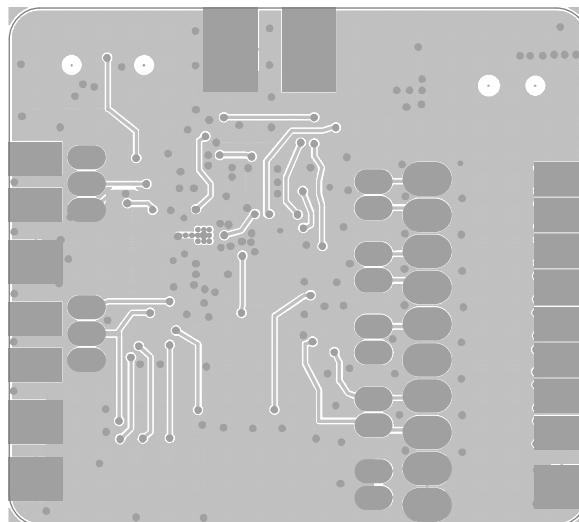
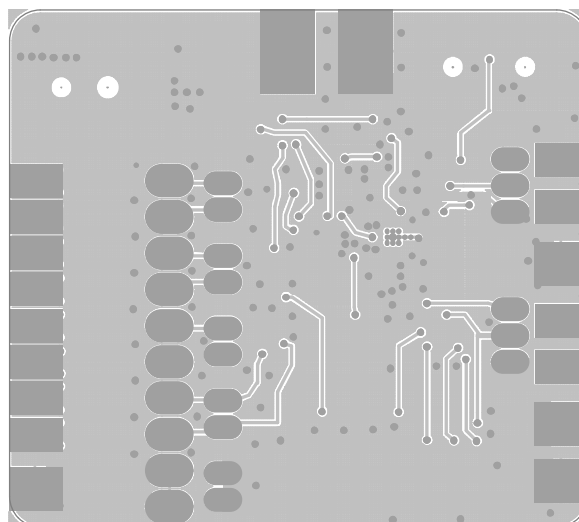

Figure 10. Bottom Layers
Figure 11. Mirrored Bottom Layers
11. Use a solid polygon plane on the other side of the PCB for the area of the vias, which are placed on the thermal pad of the chip (see Figure 10 and Figure 11). This polygon serves as both the EMI shielding ground plane and the heat sink for the SSM2304.